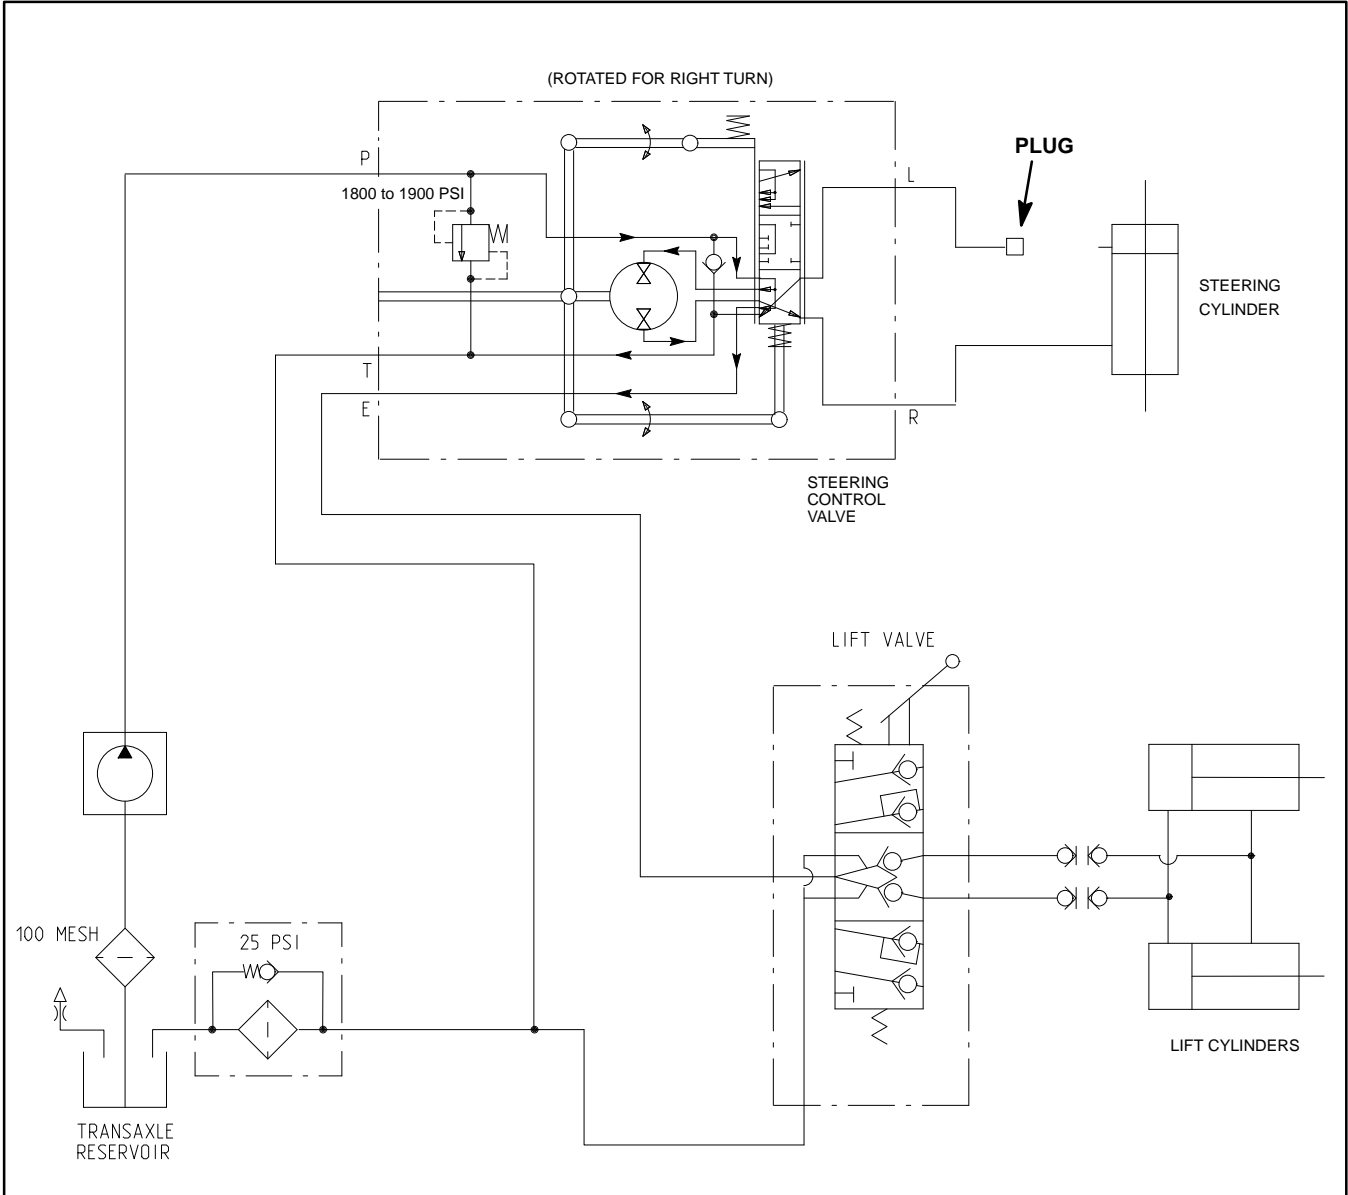

Figure 23
1. Make sure hydraulic oil is at normal operating temperature by operating the vehicle for approximately ten (10) minutes.
- E. Clean and remove hydraulic hose from the fitting on the rod end of the steering cylinder. Plug the end of the disconnected hose (Fig. 23).